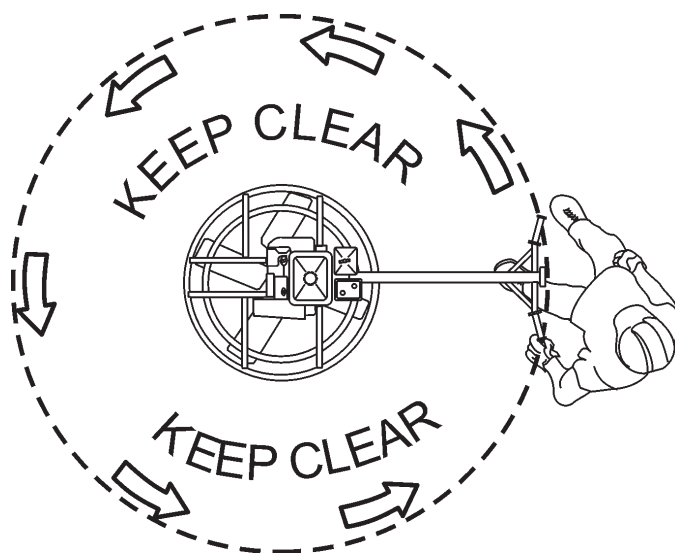

Figure 26. Testing the Centrifugal Safety Stop Switch
- CLEAR THE AREA AROUND THE TROWEL.** Move the safety stop switch lever back to the "ON" position, restart the engine and let idle. Stand behind the handle and spin the handle to the right, simulating a runaway situation. (See Figure 26). Centrifugal force should throw the safety switch outward to the "OFF" position thus shutting off the engine.
4. Remember that if you let go of the trowel, just step away and let the trowel come to a complete stop before trying to recover the trowel. See (Figure 26) to see the area around the trowel to keep clear of.